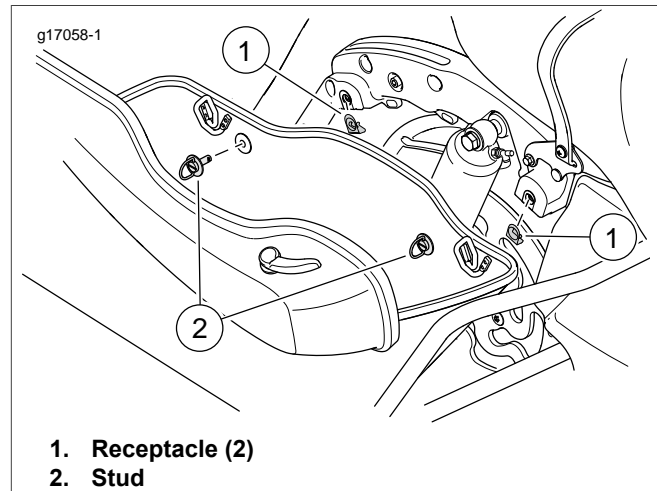

Figure 1. Saddlebag Stud Receptacles
2. See Figure 1. Remove saddlebags.
3. Remove receptacles (1).
5. Install saddlebags using original studs (2) and washers.